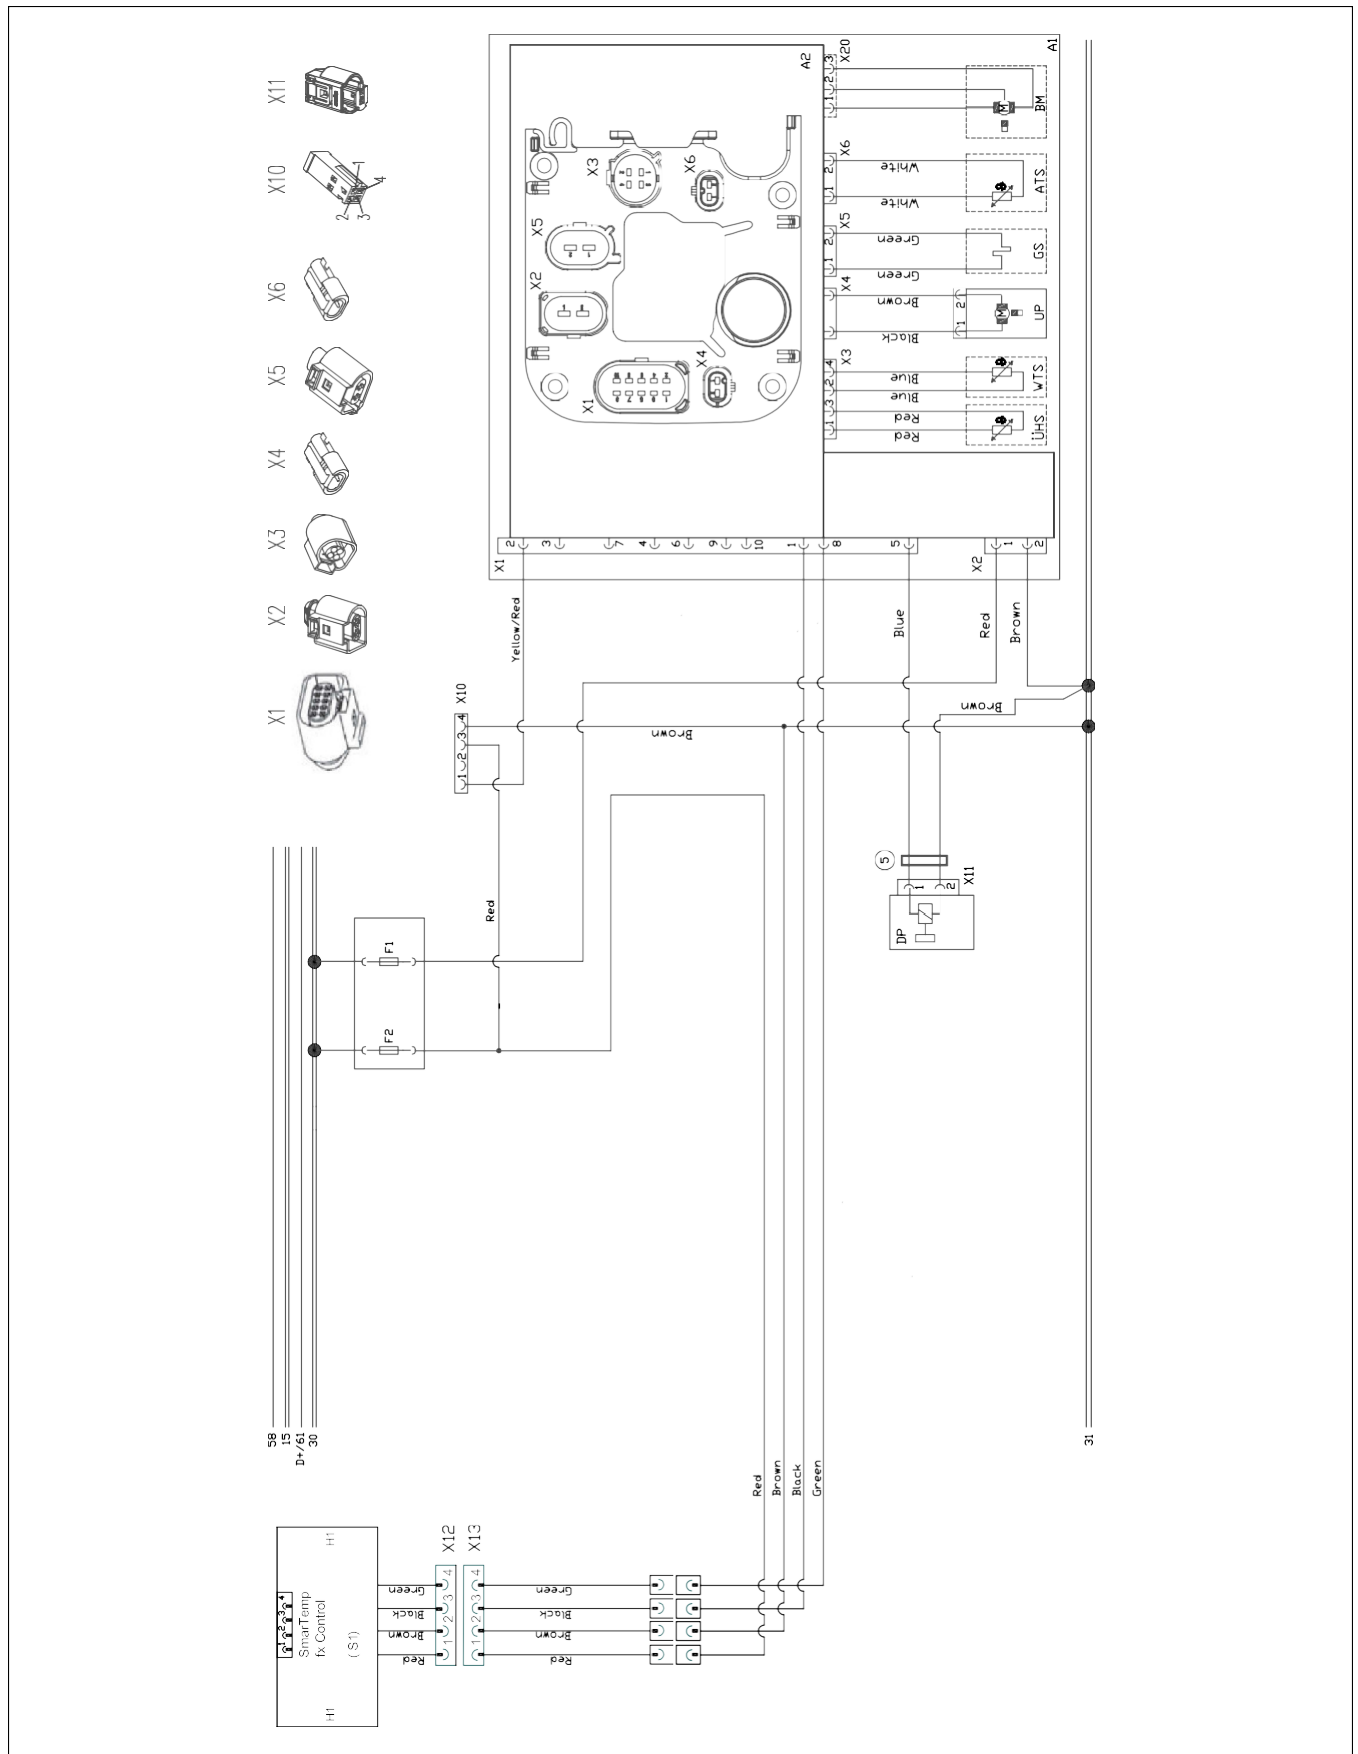

Figure 26: Thermo Pro 50 Eco with 7-Day, 4 Program SmartTemp Control 2.0 fx Timer
- System wiring diagram for Thermo Pro 50 Eco with SmarTemp Control 3.0 fig. 26